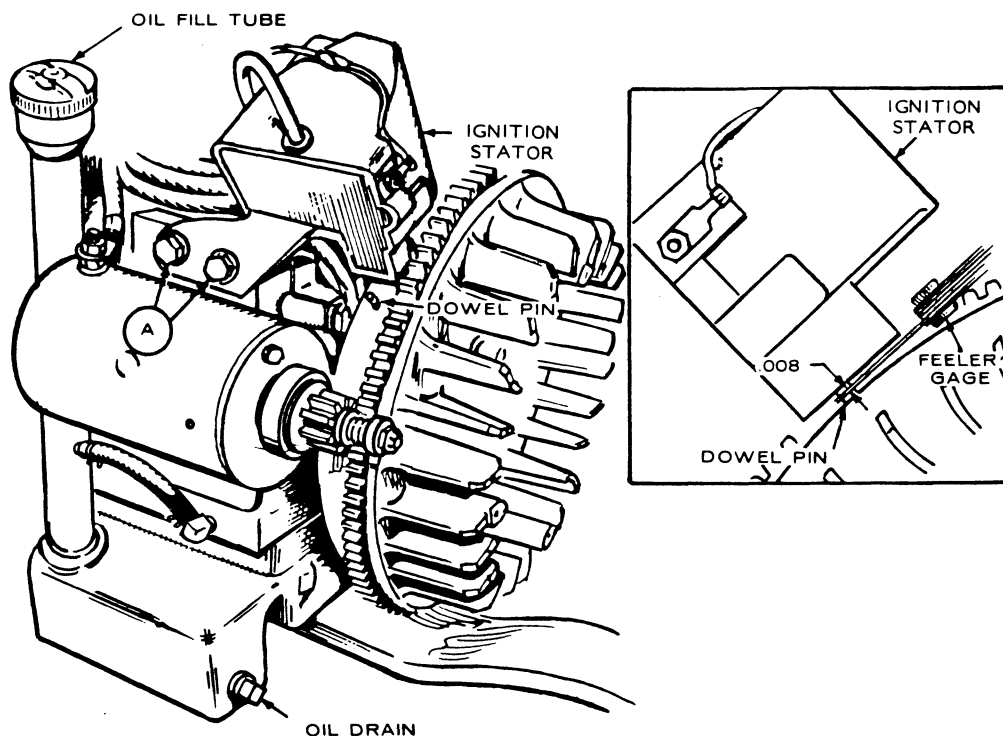

FIGURE 22. IGNITION GAP ADJUSTMENT
1. Locate the dowel pin as shown in Figure 22 (pin protrudes about 3/16 inch from surface).